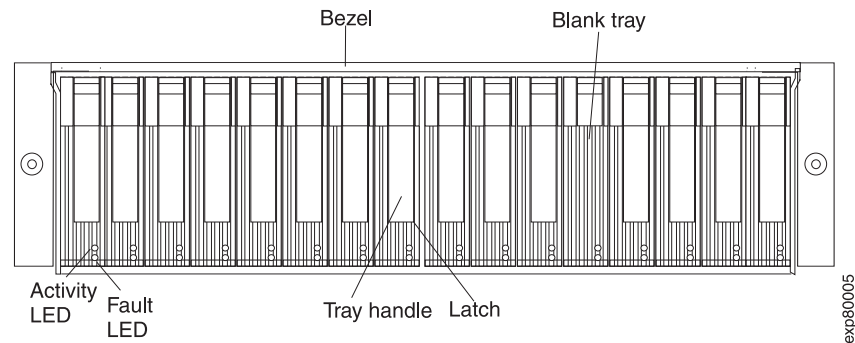

Figure 34. Hot-swap E-DDM LEDs
2. Check for Fault LEDs shown in Figure 34. If any amber LEDs are lit, see “Solving problems” on page 93.